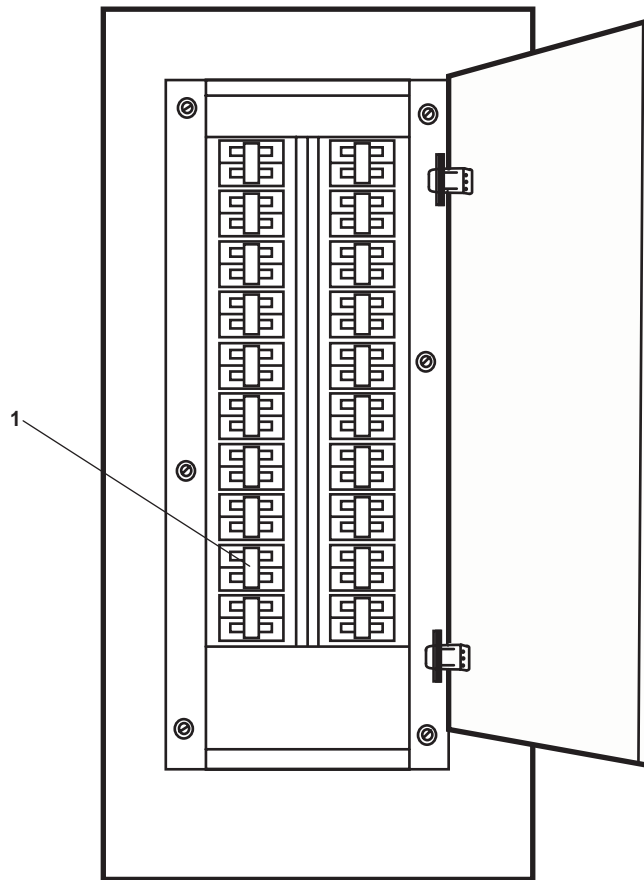

Figure 8. 120V Distribution Panel No. 4
- (1) At 120V distribution panel No. 4, set to ON the J.B. FOR AUTO DRAIN ON AIR RECEIVER. (INC. REFER DRYER) circuit breaker (figure 8, item 1).